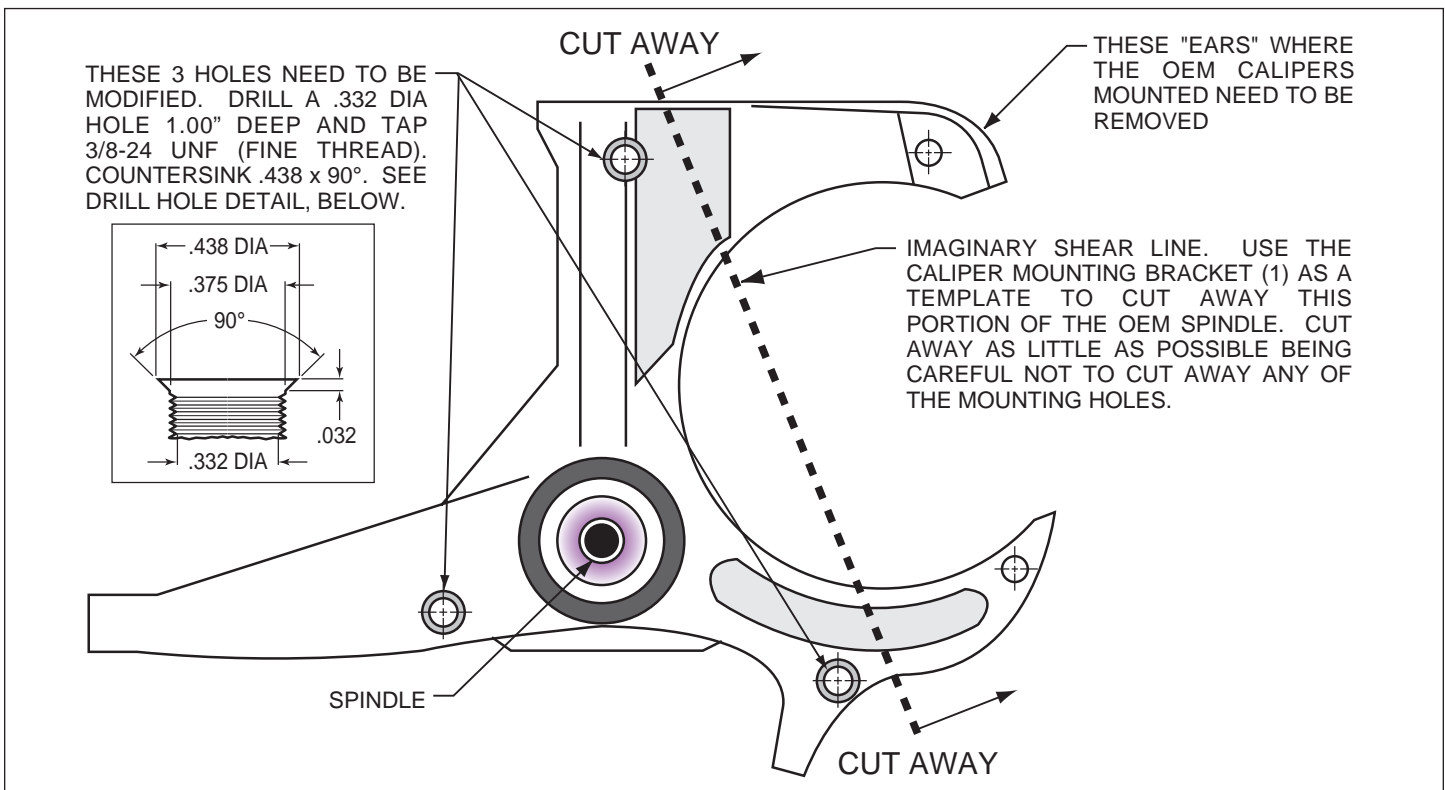
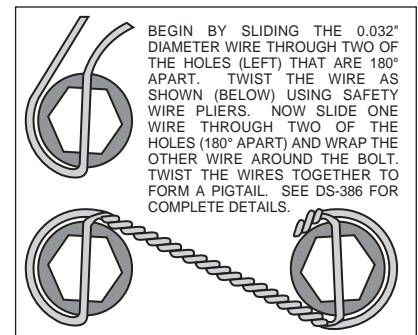

Figure 1. Steering Arm / Spindle Modifications
Figure 4. Safety Wire Diagram
These modifications should be performed by a qualified machinist. Refer to Figure 1 as necessary (numbers in parenthesis refer to the parts list on page five). Only one view of the steering arm/spindle is shown, but the modifications need to be performed on both steering arm/spindles.
- Attach rotor adapter (10) to rotor (11) using six bolts (12). Apply red *Loctite*® 271 to the threads and torque bolts (12) to 25 ft-lb. For an added measure of security, the bolts may be safety wired using standard 0.032 inch diameter stainless steel safety wire as shown in Figure 4. Please refer to Wilwood's data sheet DS-386 for complete safety wire installation instructions.
**NOTE:** The flat side of the rotor (11) lugs face toward the rotor adapter (10) with the dished side of the rotor adapter (10) facing away from the rotor (11).
- Mount the adapter/rotor assembly (10/11) to the hub (7) using bolts (13) (finger tight), as shown in Figure 1. Using an alternating sequence, remove bolts one at a time, apply red *Loctite*® 271 to the threads, and torque to 55 ft-lb.
- Pack the small outer bearing cone (14) with high temperature disc brake bearing grease. Lightly coat the spindle bearing surfaces with bearing grease. Slide the hub/rotor assembly (7 and 11) with outer bearing cone (14) onto the spindle. Secure using spindle washer (15), existing adjusting nut and nut locking device. **NOTE:** Because of a tolerance variation among spindles, it may be necessary to install a shim washer (16) between the spindle washer (15) and the spindle nut if the spindle nut will not tighten down all the way. There are four supplied in the kit for your convenience.